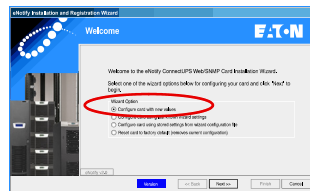

Figure 12. Welcome
2. On the Welcome screen (Figure 12), select one of the following options and click **Next**:
To configure another UPS, select **Yes** and then click **Next**. The Welcome screen opens (see Figure 12 on page 9). Verify the E-mail Test in Step 17, and then continue with Step 2 on page 9 to configure the additional UPS.